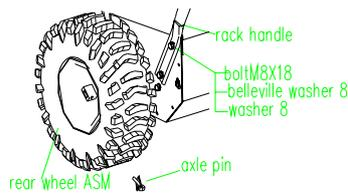

FIG 1
2.1.3 Move the rear wheels combination inward. Link locking ring combination with axle. (FIG 1)